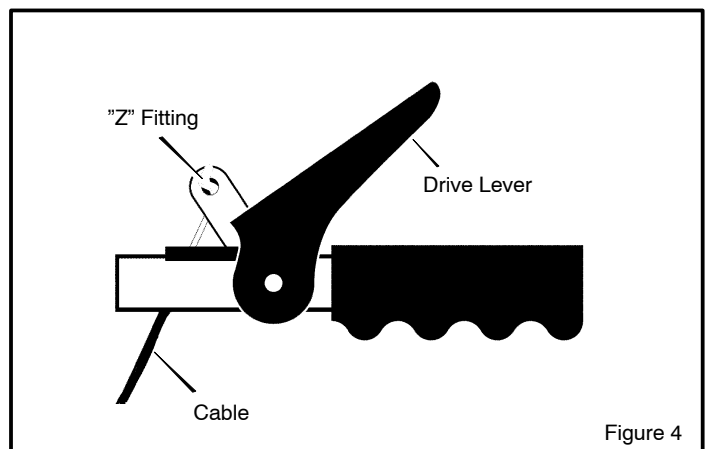

Figure 4
**NOTE: If the cables have become disconnected from the clutch levers, reinstall the cables as shown in Figure 4.**